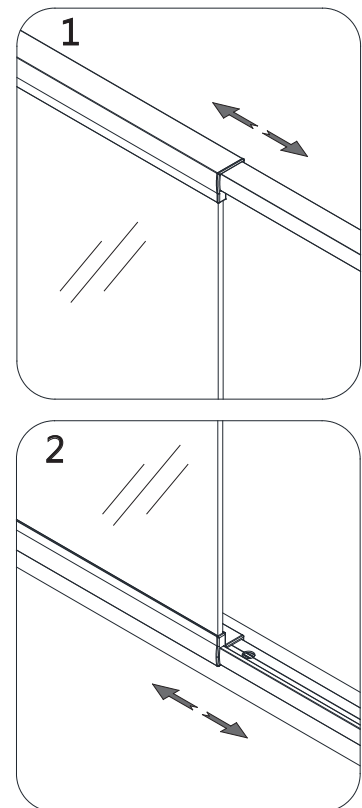

**Fig 5**
**5.** Check the threshold of the finished opening to make sure that it is level. (This model does not allow for out-of-level adjustment) **(Fig 5)**